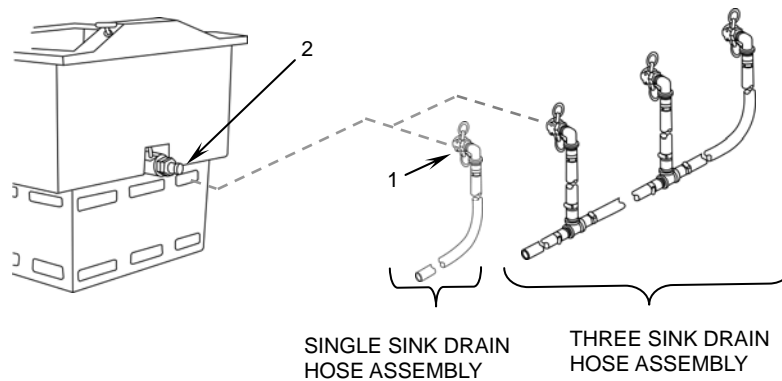

Figure 6. Installing the Sink Drain Hose Assembly.
- a. Open each of the clamp(s) (**Figure 6, Item 1**) on one of the two sink drain hose assemblies illustrated in Figure 6 as required for the deployment.
- b. Insert the drain hose assembly coupling(s) (**Figure 6, Item 1**) over the sink drain coupling(s) (**Figure 6, Item 2**).
- c. Close each clamp (**Figure 6, Item 1**).